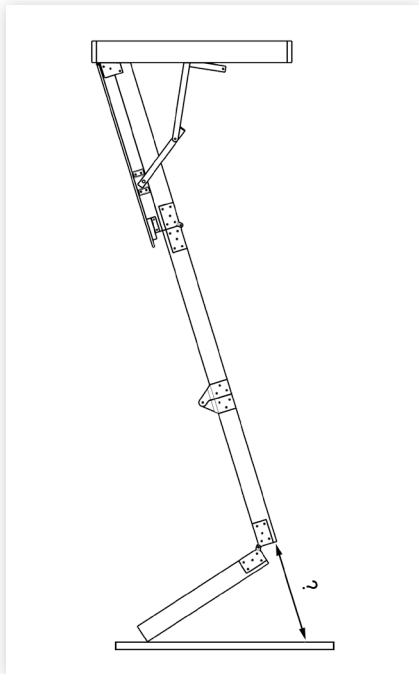

figure 10
1. With the top and middle sections of the ladder open and the bottom section tucked in behind, measure the distance from the bottom of the middle section, to the floor at the same angle as the ladder (figure 10). Do this on both sides.
2. Once you have determined the length of '?' (figure 10) transfer these measurements to the front of each side of the bottom section of the ladder. Mark the cut off back from these points at the same angle as the treads.